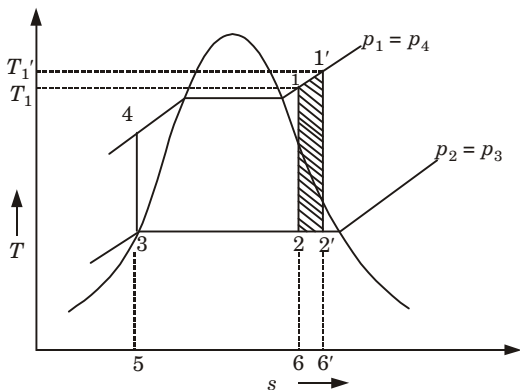

Fig. 7. Effect of increasing temperature at inlet to turbine.
2. From the given Fig. 7, it is clear that increase in inlet temperature from T_1 to T_1' (Let $T_1 < T_1'$) increases net work and heat addition.